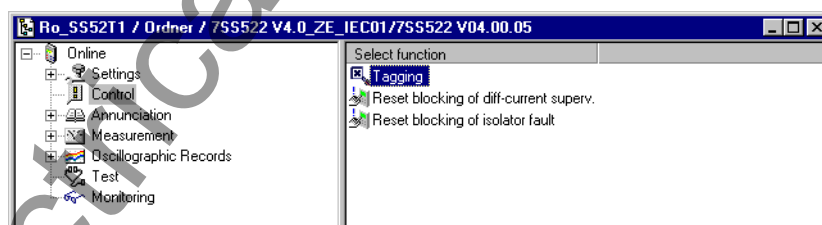

Figure 6-24 Reset blocking of differential current supervision using DIGSI
- ❑ Click **Control** in the navigation window. (see Figure 6-24, page 237).
- ❑ Click **Control** in the navigation window.(see Figure 6-24, page 237).